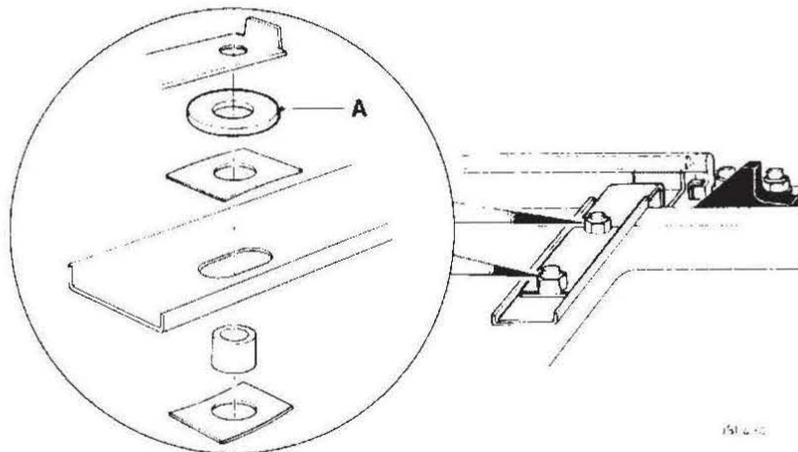

FIG. 1
- 2) Fully close underpanel, de-tab and remove the nuts and tab washers securing the rack cable brackets (Fig. 1).
- 3) Position one 10 mm I.D. plain washer over the distance collar of each stud "A" Fig. 1, to increase tension on the bracket. Refit tab washer and nuts, tighten and re-tab.